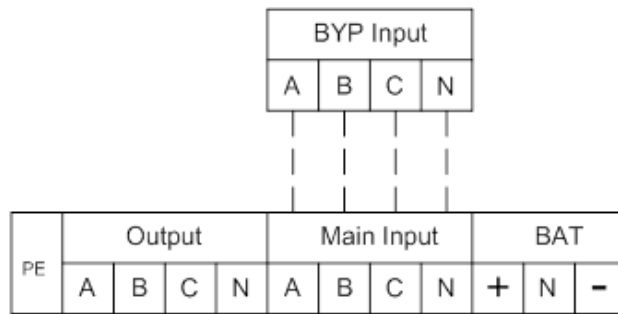

Fig.2-13 6-slot connections terminals
2. Open the back door of the cabinet, remove the plastic cover. The input and output terminal, battery terminal and protective earth terminal are shown in Fig.2-11 & Fig 2.13.